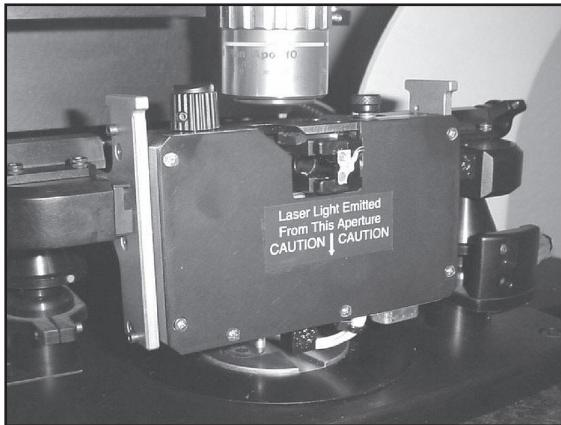

Figure 3.33: Mounted Probe
- Use tweezers to grasp the metal substrate as indicated in Figure 3.33.